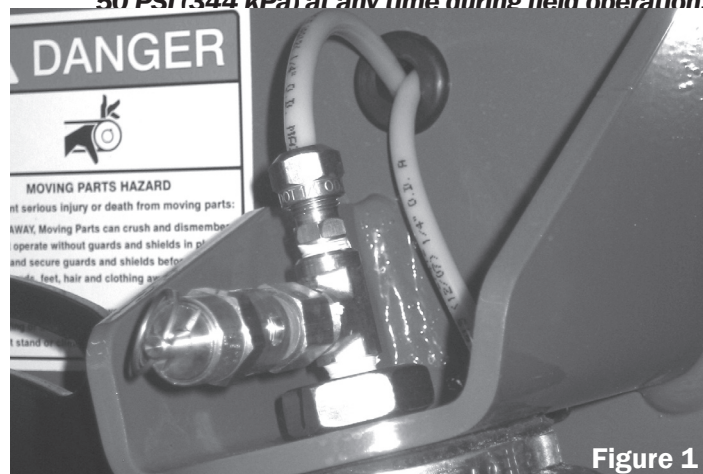

Figure 1
2. On 2008 Macerators, lower the Steel Roll Air Pressure by pulling the Relief Valve Ring at top of Left Side Air Bag (Fig. 1) to relieve pressurized air. (Ensure the Pressure Valve Knob is pulled out and turned all the way counter-clockwise before relieving air from the bag.) Repeat pressure setting as in step 1 above to set a new air pressure.